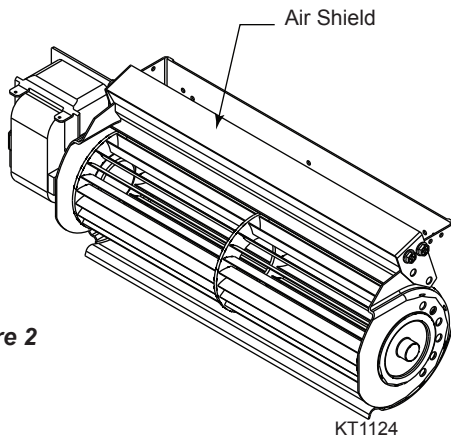

Figure 2
**DFX32, CFX32,** repositions air shield as shown in *Figure 2*.